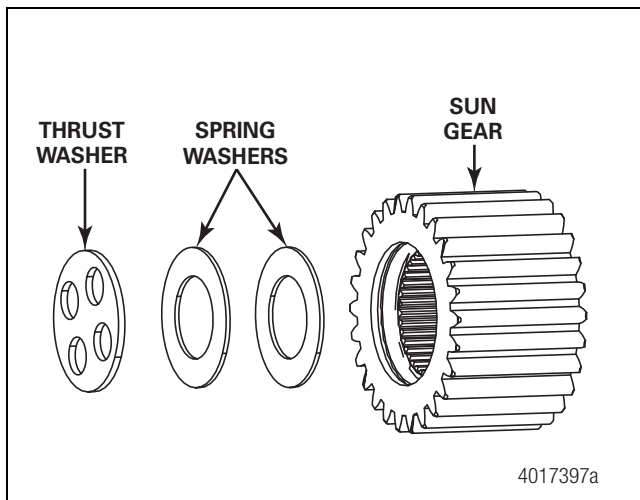
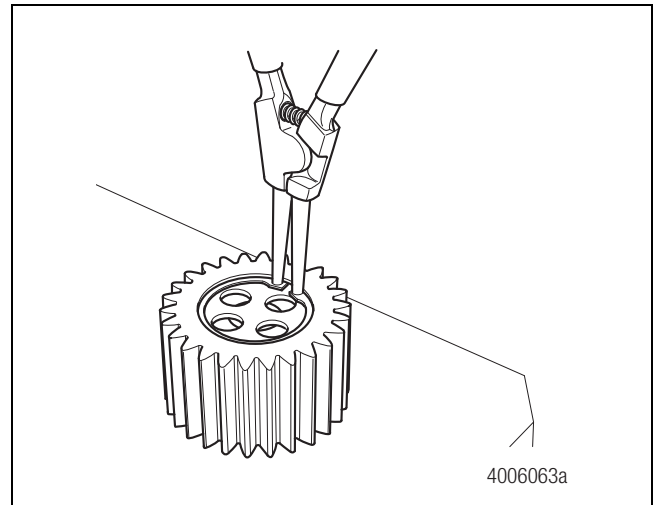

Figure 12.14
Figure 12.15
1. Install the spring washers and thrust washer into the sun gear. Install the snap ring. Figure 12.14 and Figure 12.15.